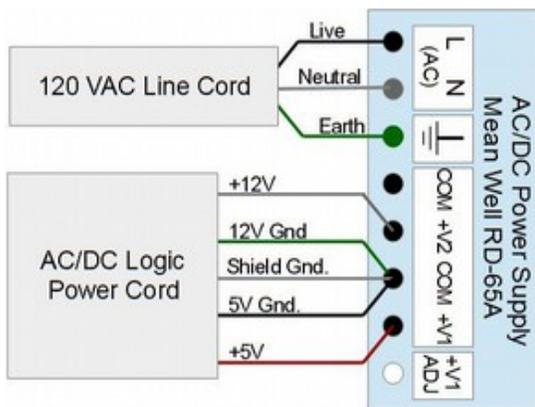

Figure 2.2.1
1. Connect AC/DC logic power cable (Dwg No. S13352) to the power supply (PN 7384) as shown in below Figure 2.2.1. Up to **three** AC/DC's can be powered with a PN 7384 supply.
1. Connect the shield (bare metal), 5V ground (black), and the 12V ground (green) to the common terminal as shown in Figure 2.2.1.